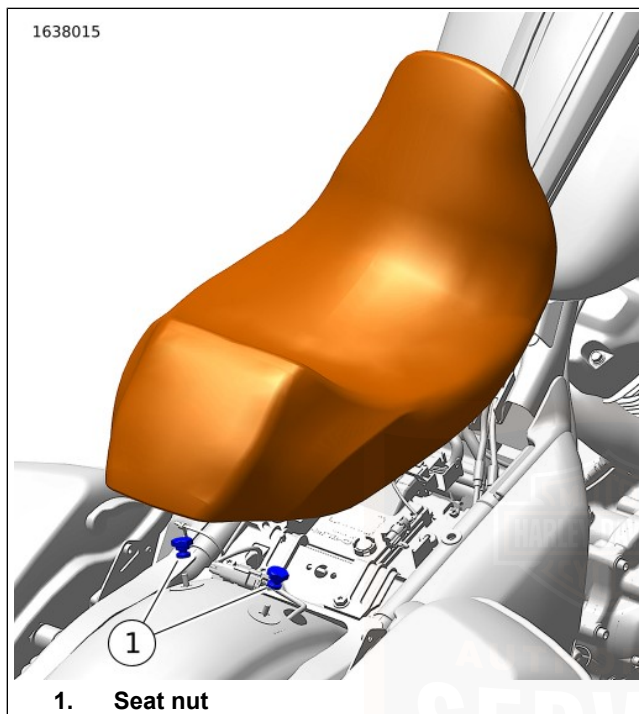
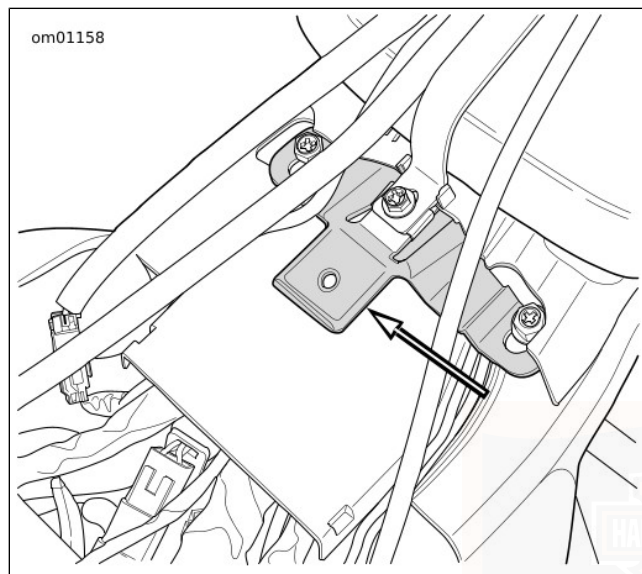
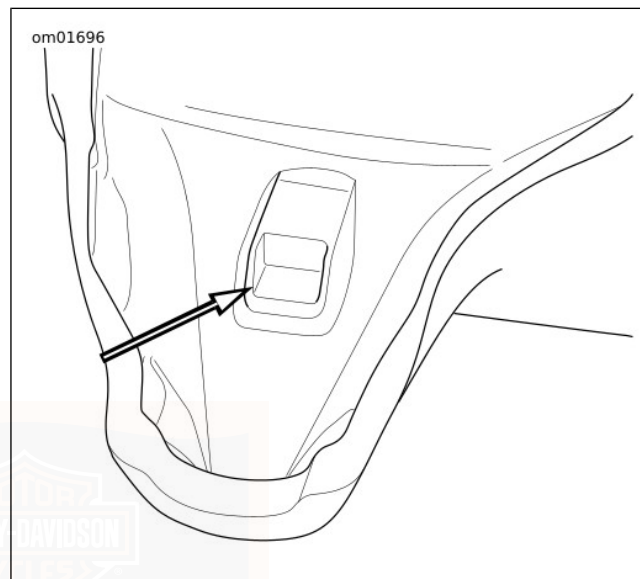

Figure 102. Solo Seat: Hidden Seat Nuts
Figure 104. Seat Tongue
Figure 105. Seat Mounting Slot
1. See Figure 102. Remove seat.
- b. Remove seat nuts (1).
- c. See Figure 104 and Figure 105. Raise rear of seat. Pull seat rearward to disengage the tongue from the slot in the seat.
5. See Figure 104 and Figure 105. Raise rear of seat. Pull seat rearward to disengage the tongue from the slot in the seat.
1. See Figure 102. Install seat.
- a. See Figure 104 and Figure 105. Align seat slot with tongue behind the fuel tank. Push seat forward to engage seat.
- b. Install seat nuts (1). Tighten.
1. See Figure 104 and Figure 105. Align seat slot with tongue behind the fuel tank. Push seat forward to engage seat.